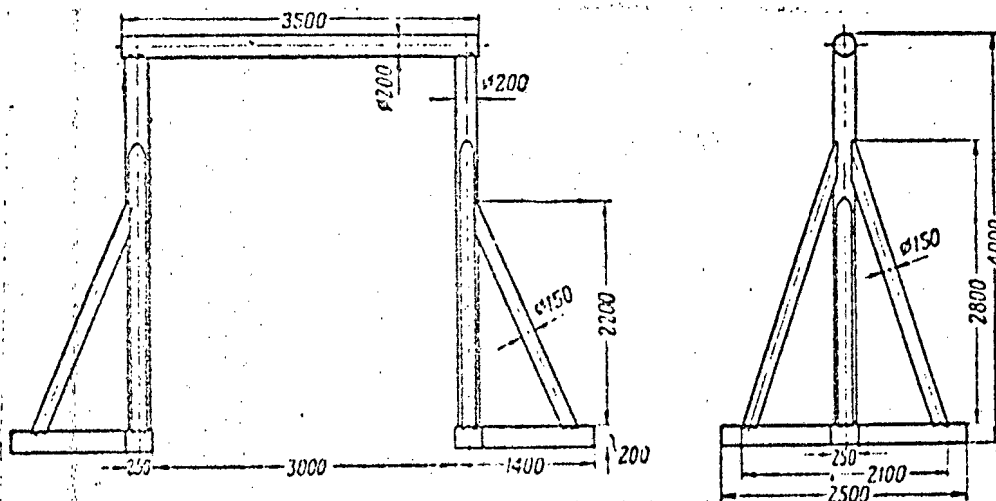

Fig. 109. Trestles for Lifting the Barrel
- wooden trestles for the support of the pulley block (Fig. 109),